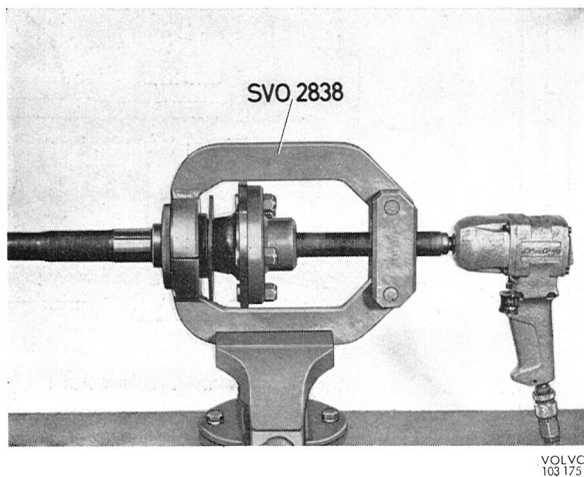

Fig. 4-145. Drive shaft bearing removal
5. Install press tool 2838 in a vise. Secure the drive shaft to the spindle plate. Screw in the spindle so that the tool arms can be placed against the bearing, see Fig. 4-145. Screw out